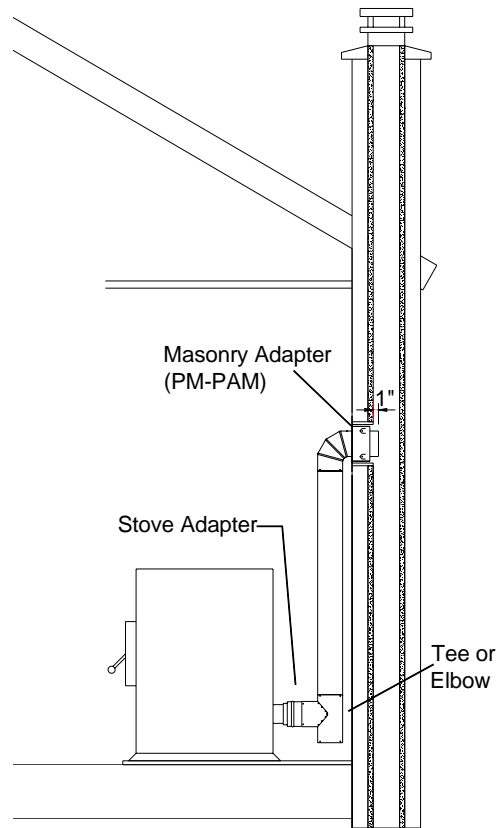
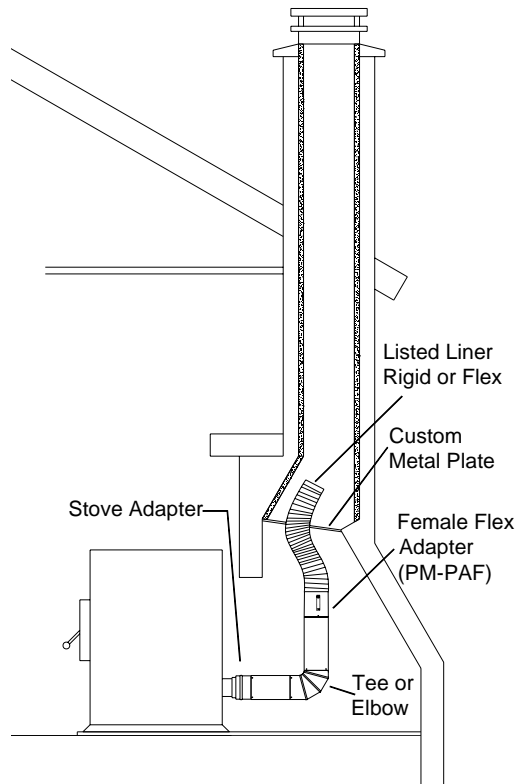

Figure 11
Figure 12
Figures 11 and 12 are typical installations allowed in the USA only. In some places in the USA it may be required that the masonry chimney be entirely relined from the appliance to the top. Refer to the previous section.
For an installation similar to Figure 11, follow steps 3, 4 and 9. For Figure 12, follow steps 5 to 9.
4. As shown in Figure 11, fasten a tee or elbow to the universal stove adapter and chimney lengths required to fit in the masonry chimney access. You may need to use a slip length. Twist the part back and forth when you put them together. This turning motion will make the parts go together more easily. There is no need to apply silicone caulking to the exterior of the joint. The factory installed gasket on the flue will make a sealed connection. Put a small amount of liquid dish soap on each gasket to make it easier to assemble the vent lengths. Do not use a petroleum-based lubricant. Bend the tabs and slide the Masonry Adapter (PM-PAM) before installing the last length. Secure all joints using three #6 x 1/4" screws provided. Make sure the last horizontal EXCELPellet length extends a minimum of 1 inch into the masonry chimney. Secure the last length to the masonry adapter tabs with two #6 x 1/4" screws provided.
7. As shown in Figure 12, connect the required length of EXCELPellet chimney, a 90° elbow or tee, and a Female Flex Adapter (PM-PAF) together and attach it to the stove adapter.